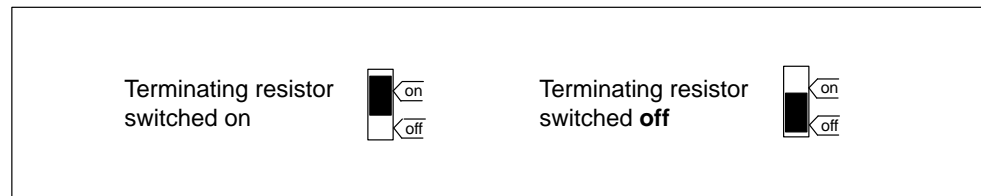

Figure 5-10 Bus Connector (6ES7 ...): Terminating Resistor Switched On and Off
3. If the bus connector is installed at the start or end of a segment, you must switch on the terminating resistor (switch setting "ON") (see Figure 5-10).